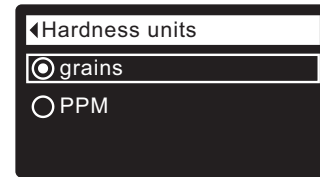

FIG. 114
1. From any of the rolling status screens, press the SELECT (O) button to display the **Main menu**.
3. Press the SELECT (O) button to display the User preferences menu.
5. Press the SELECT (O) button to display the Hardness units menu (See Figure 114).
6. If the desired hardness unit already has a dot next to it (See Figure 114), go to Step 7. Otherwise, press the DOWN (▼) or UP (▲) buttons to scroll to the other hardness unit, then press SELECT (O) to choose it.
7. Press the SELECT (O) button. The display will go back to the User preferences menu.